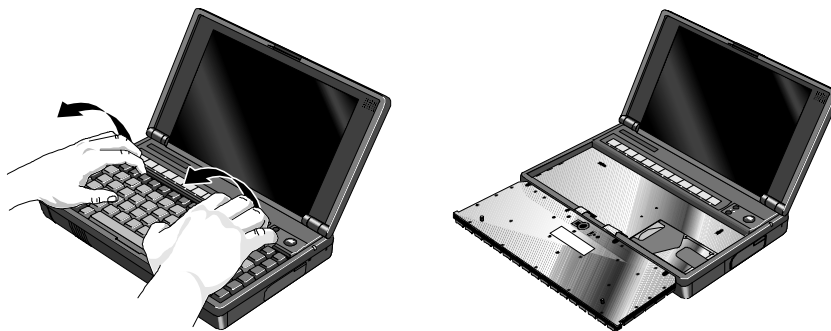

Figure 29 - Folding the Keyboard Open
4. Remove the keyboard by inserting your fingertips between the top row of keys and the case and then lifting. Then fold the keyboard *gently* forward so that it lies upside down on the table. *Do not pick up the computer while the keyboard is in this position.* See Figure 29.